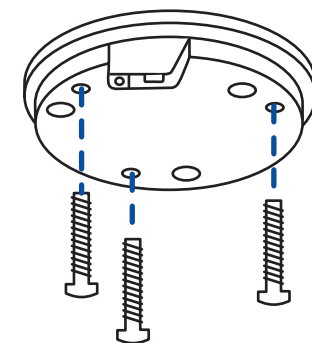

Figure 6a
Attach the three (3) appropriate machine screws to the bottom of the ChargeSpot as demonstrated in Figure 6a below. Ensure that the screws are not tightly fastened to leave room for depth adjustment.